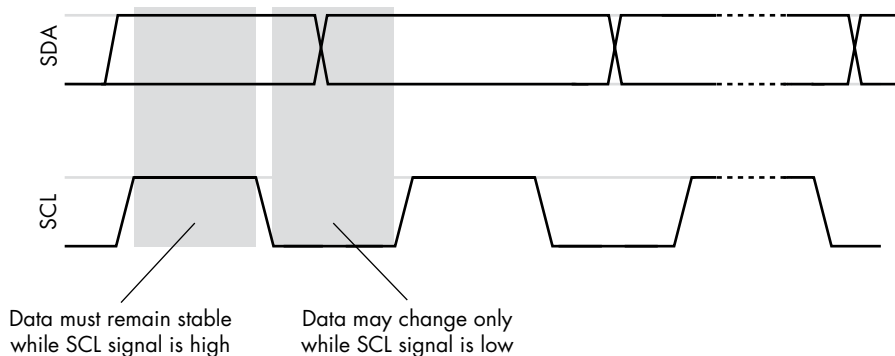
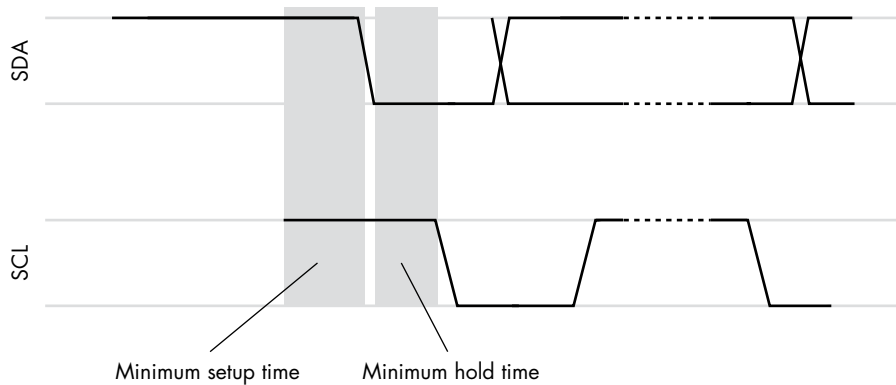

Figure 2-1: Serial data transmission on the I²C bus
Figure 2-2: Start condition on the I^2C bus
The I²C bus transmits data serially on the SDA line, clocked by the SCL signal (see Figure 2-1). The data on the SDA line must be stable (0 or 1) when SCL is high (1); data may change on the SDA line only while SCL is low (see Figure 2-1).
A start condition consists of a controller pulling the SDA line low while the SCL line has been high for some period of time (see Figure 2-2). As mentioned earlier (see Figure 2-1), the SDA line normally must be stable while the clock line is high. This is to allow devices on the I²C bus to detect a start (and as you will soon see, a stop) condition.